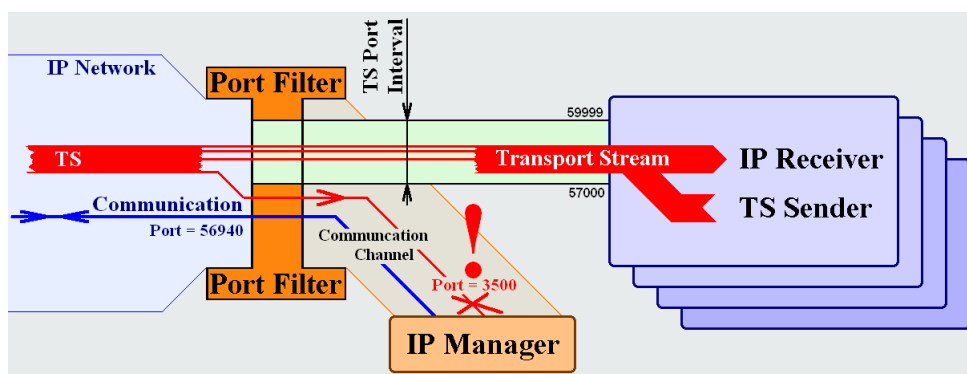

Figure 2.2
- In the CW-4956 and CW-4958 types the input filter watches the value of the IP Address and the TS Port Interval simultaneously, so these can process signals of any sources, but the number of the communication port must be out of the TS Port Interval range. The disturbing effect of the wrong port number from the TS (Port number=3500) is shown in Figure 2.2.